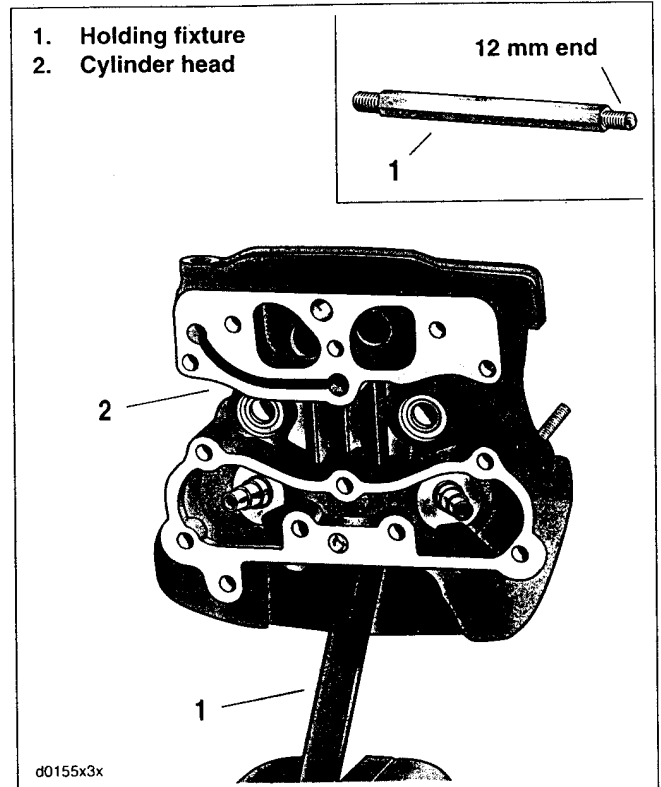
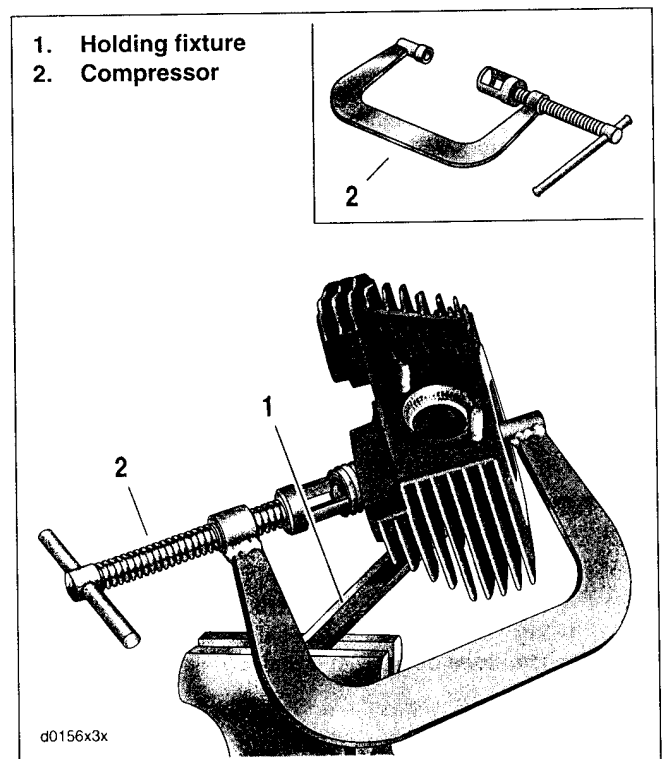
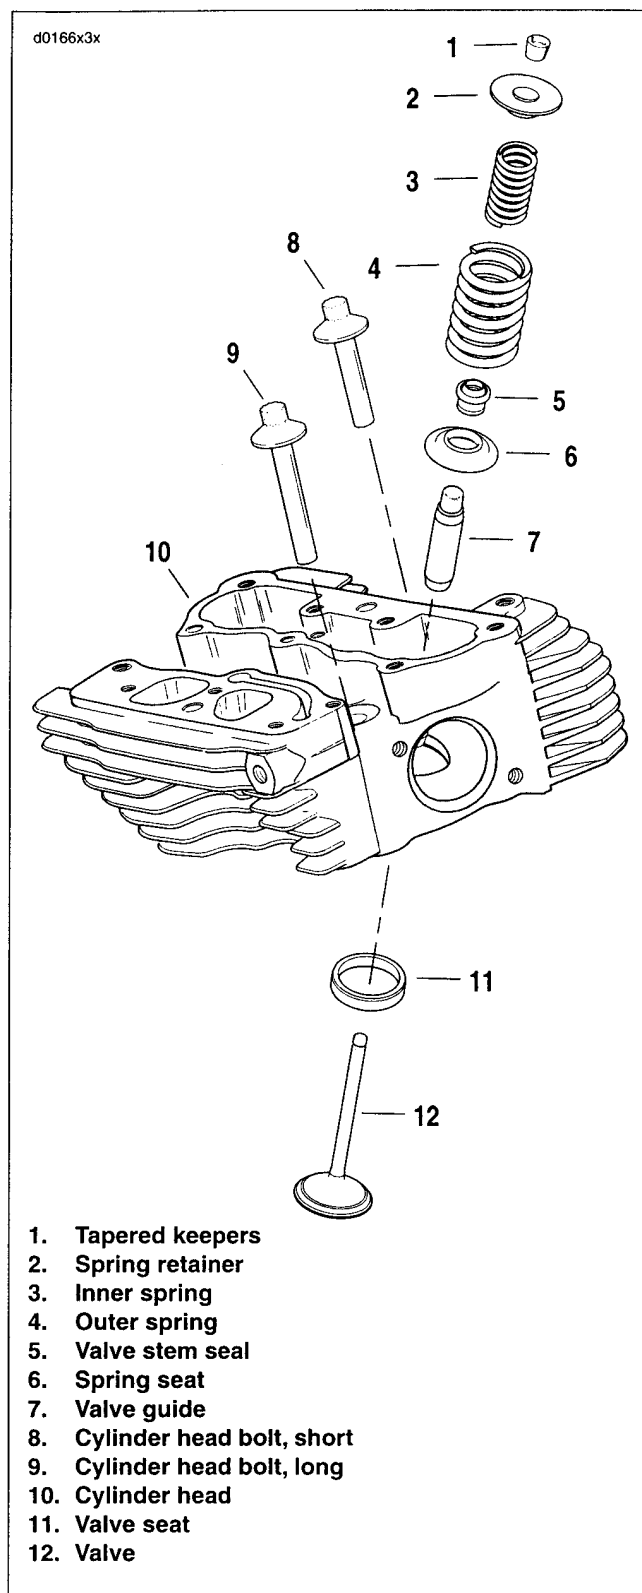

Figure 3-90. Cylinder Head Holding Fixture (Part No. HD-39786-A)
Figure 3-91. Valve Spring Compressor (Part No. HD-34736-B)
Figure 3-92. Cylinder Head Assembly
2. See Figure 3-90. Secure cylinder head for service.
- a. Thread 12 mm end of CYLINDER HEAD HOLDING FIXTURE (1) (Part No. HD-39786-A) into cylinder head (2) spark plug hole.
3. See Figure 3-91. Release valve spring compression.
- a. Place VALVE SPRING COMPRESSOR (2) (Part No. HD-34736-B) over cylinder head. Center blunt end on the valve head. Seat adapter at end of forcing screw on the valve spring retainer.
- c. See Figure 3-92. If spring retainer (2) has not broken free of tapered keepers (1), give head of tool a sharp tap with a soft mallet. Using magnetic rod or small screwdriver, remove the keepers (1) from the valve stem (12) groove.
4. Remove the spring retainer (2) and inner (3) and outer (4) valve springs.
5. Slide the valve (12) from the valve guide (7).
1. See Figure 3-92. Remove old gasket material from cylinder head (10). Gasket material left on sealing surfaces will cause leaks.